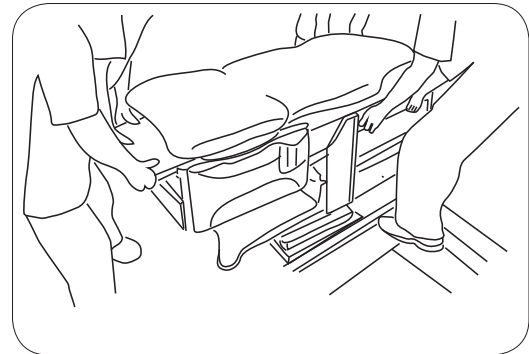

Figure 16. Lift, move to furniture dolly and lower
16. Front lifting points are the left and right sides of the leg support (figure 16).
19. Obtain new footholds and hand holds. Lift table, move to furniture dolly and lower (Figure 16).